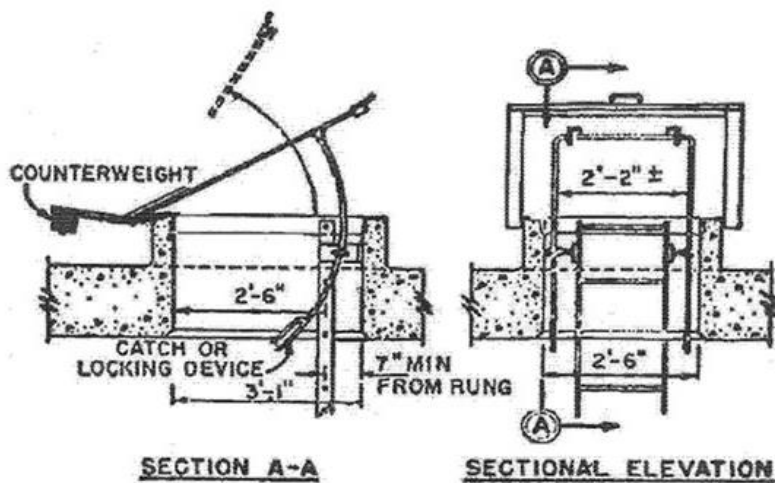

Figure D-3 -- Example of Counterbalanced Hatch Cover at Roof.
- When a fixed ladder terminates at a hatch (see Figure D-3) the hatch cover opens with sufficient clearance to provide easy access to or from the ladder and opens at least 70 degrees from horizontal if the hatch is counterbalanced.